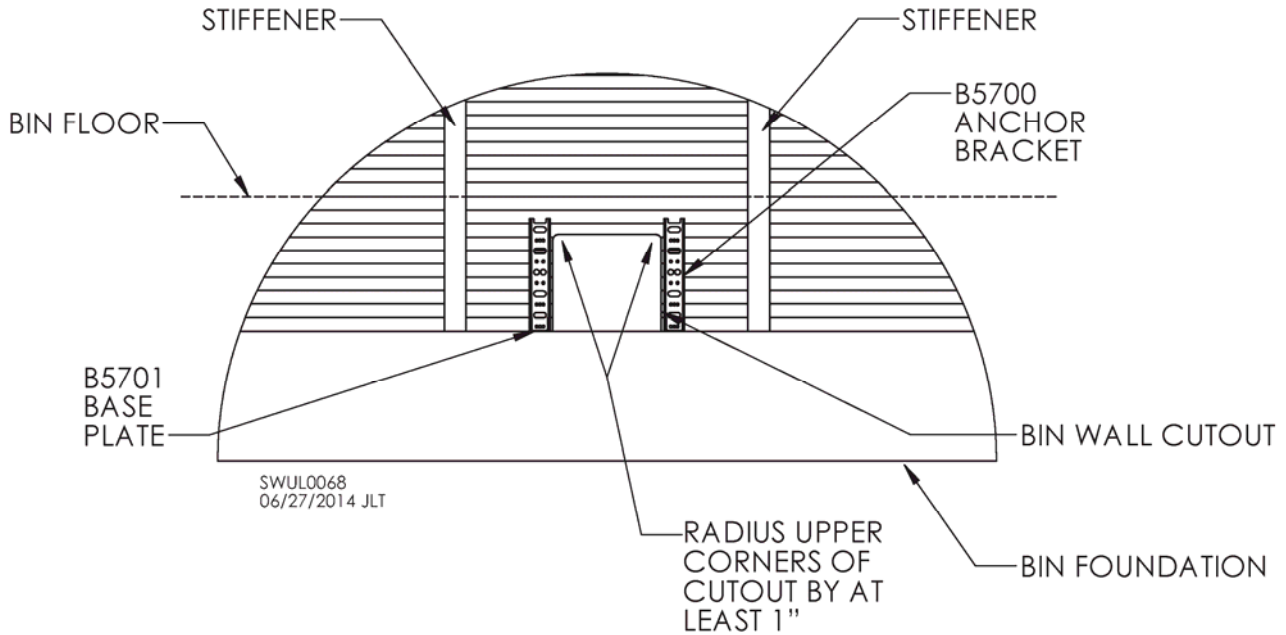

Fig. 13 – 20" cutout reinforced by 22" anchor brackets (B5700) and base plates (B5701)
Bin sidewall should be reinforced around any non-supported cutout wider than 13" (e.g., conveyors) using 22" anchor brackets or similar supports. See Fig. 13. Attach base plates to all 22" anchor brackets using two (2) 3/8 x 1" bolts and two (2) 3/8" flange nuts. Attach 22" anchor brackets to sidewall using same size bolts used in vertical seams of sidewall sheets, with a minimum of 3/8" bolt.